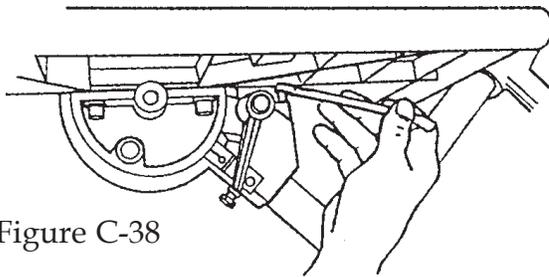
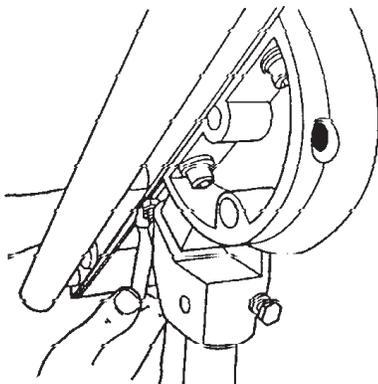

Figure C-38
Figure C-39
- 37. Tighten the tilt lock, then use a 1/2" wrench to adjust the 45° stop on the front side of the worktable (shown in Figure C-38) and the back side of the worktable (as shown in Figure C-39). The stops should just contact the underside of the table.